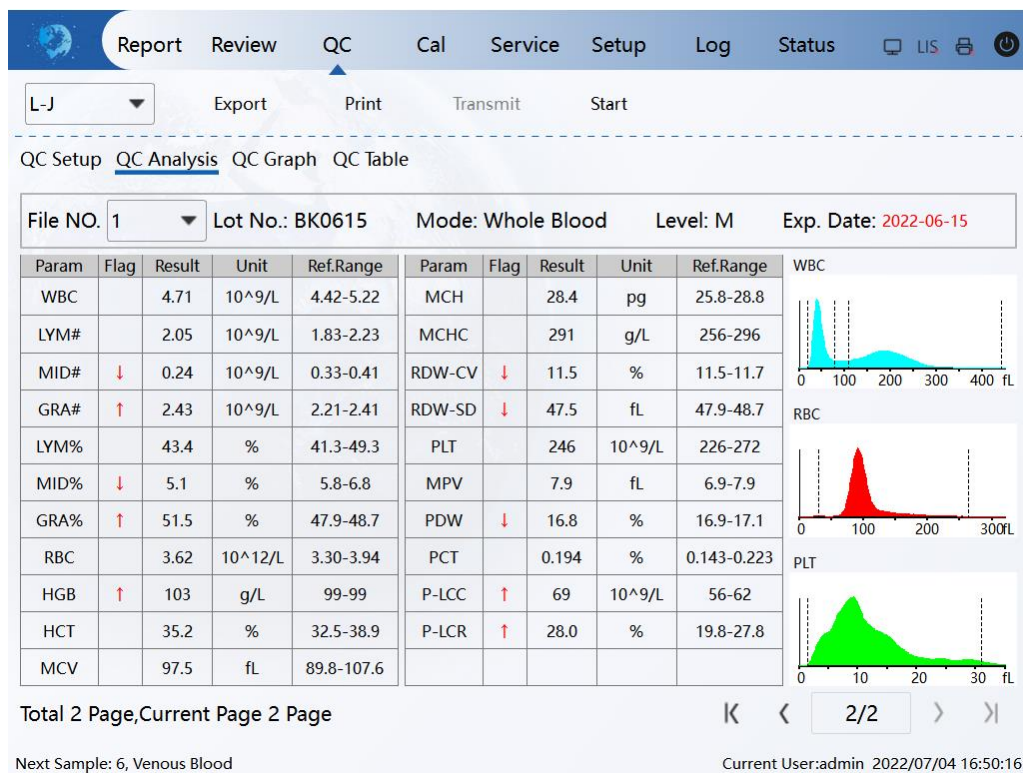

Figure 5-4 QC analysis results
10. The machine would beep after aspirating, then remove the QC product. After the analysis, the results would be displayed on the current interface (as shown in Figure 5-4) and automatically saved to the current QC file.
14. After aspirating, the user can remove the centrifuge tube. After the analysis, the results would be displayed on the current interface (as shown in Figure 5-4) and automatically saved to the current QC file.